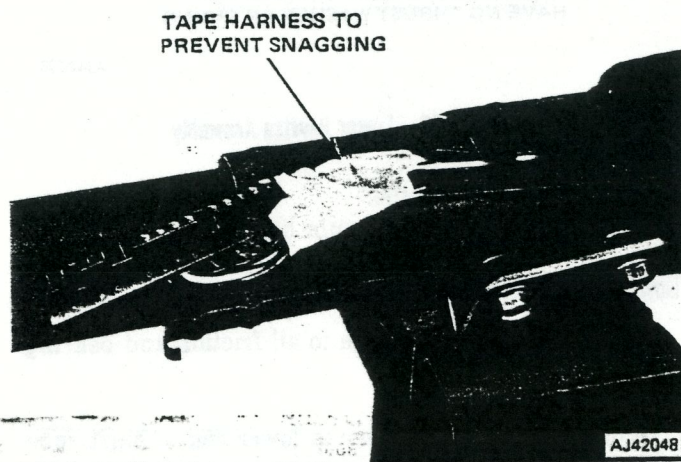

Fig. 2J-27 Turn Signal Switch Harness Removal
(19) Wrap tape around turn signal switch harness connector to prevent snagging (fig. 2J-27).
(20) Remove turn signal switch attaching screws and remove switch and harness. Pull switch straight up and out of column.
(21) On vehicles with Cruise Command, remove turn signal lever attaching screw and remove lever and switch as assembly. Guide switch harness out of column using string previously taped to harness.